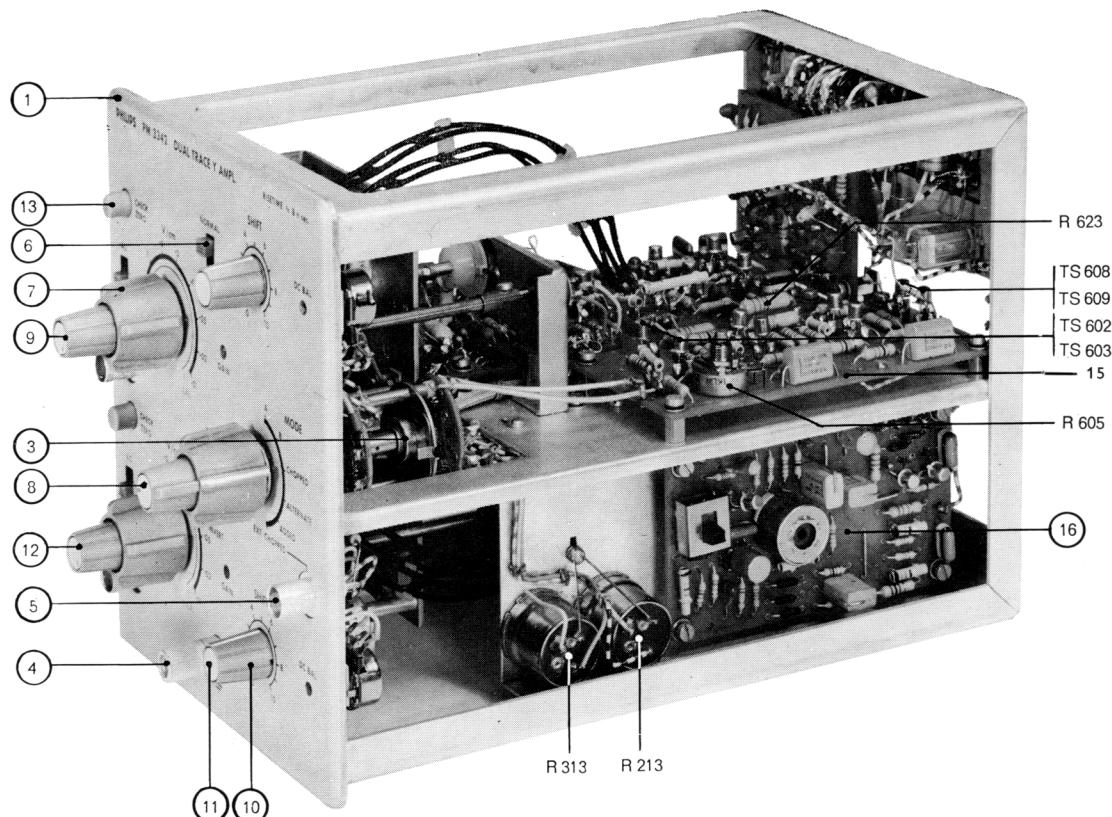

Fig. 6. Right-hand view
###### R213 (Fig. 6)
### R313 (Fig. 6)
### R605, R623 (Fig. 6)
- Short-circuit the input of the trigger amplifier by interconnecting the bases of transistors TS602 and TS 603 (See Fig. 6).
- Measure the voltage on the output of the amplifier between the emitters of transistors TS608 and TS609. (See Fig. 6).